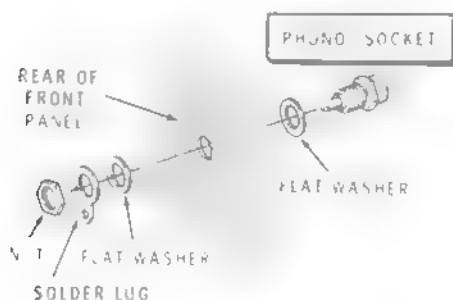

Figure 26
- () Refer to Figure 26 and mount a phono socket as shown.